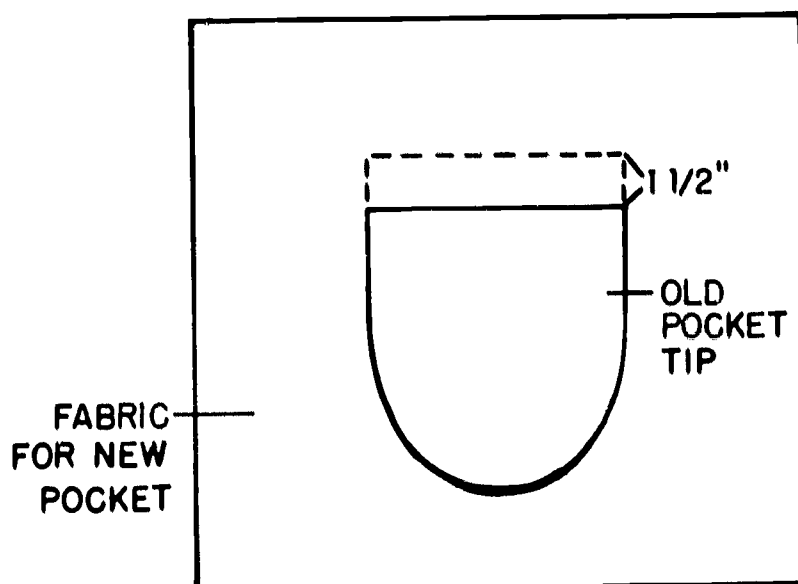

Figure 76.
1. Cut off lower half of pocket. Rip out seam in the part of the pocket that has been cut off. Use this as a pattern to cut a new pocket half, allowing at least 1-1/2 inches across the top for a seam (see Figure 76).